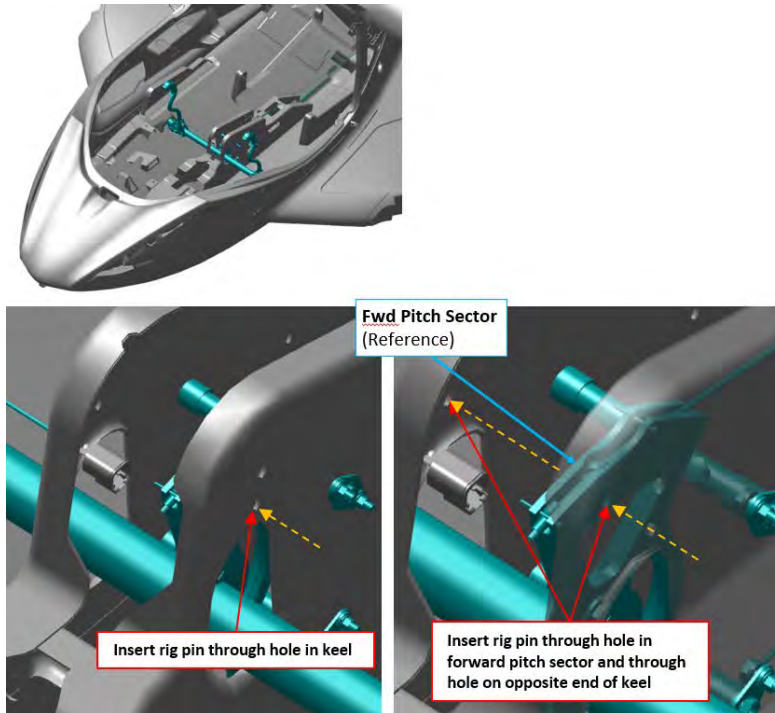

FIGURE 10-31
3. Install .250 in diameter rig pin through the center console and forward pitch sector. (Figure 10-31)